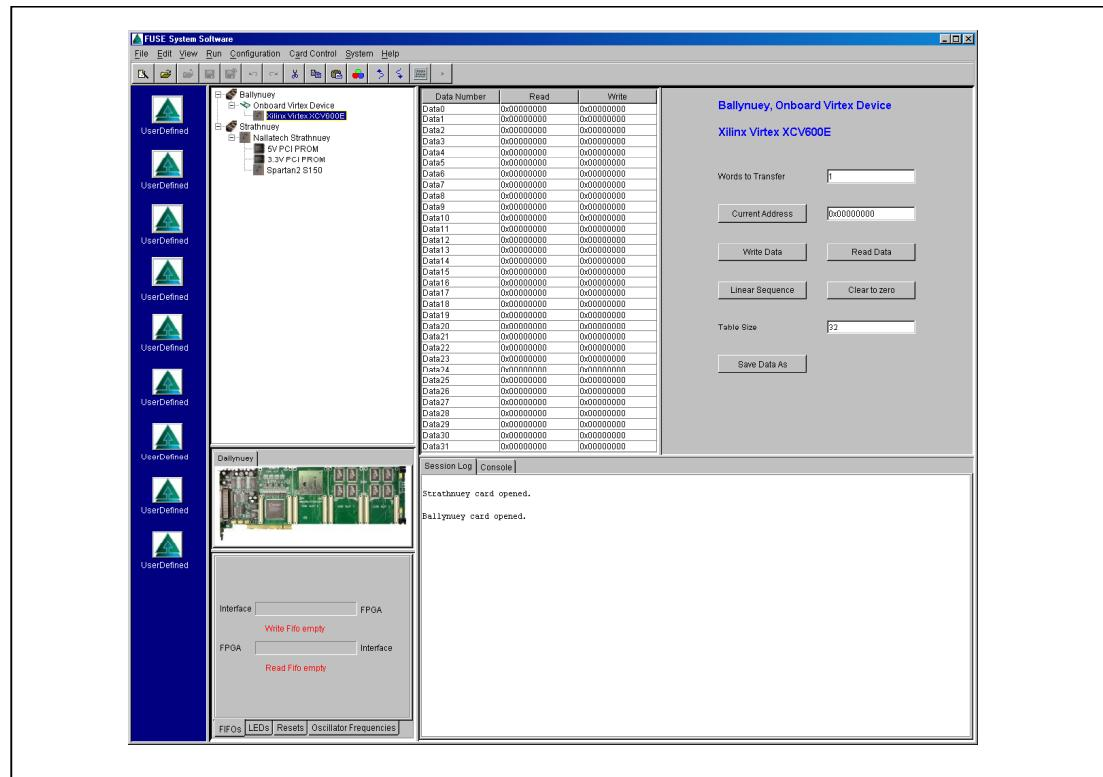

Figure 7: GUI with two cards opened
- I. After both cards have been opened, as described in Example 1, the screen should look similar to Figure 7: